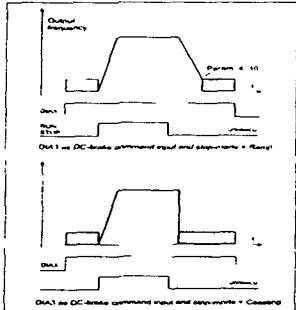

Figure 6.5-1 DI43 as DC-brake command input:
- 9 DC-braking command contact closed = In the stop mode, the DC-braking operates until the contact is opened, see figure 6.5-1. DC-brake current is set with parameter 4.8